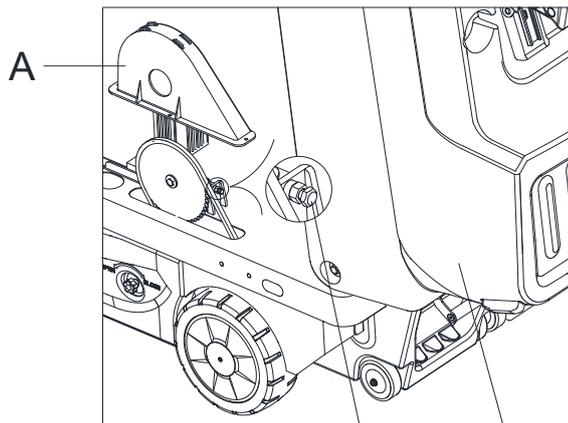

Figure 37
6. Open the cover (C, Figure 37).
7. Remove the chain protection cover (A, Figure 37).
8. Adjust the chain adjustment screw (B, Figure 37) to ensure the chain has the appropriate tension.